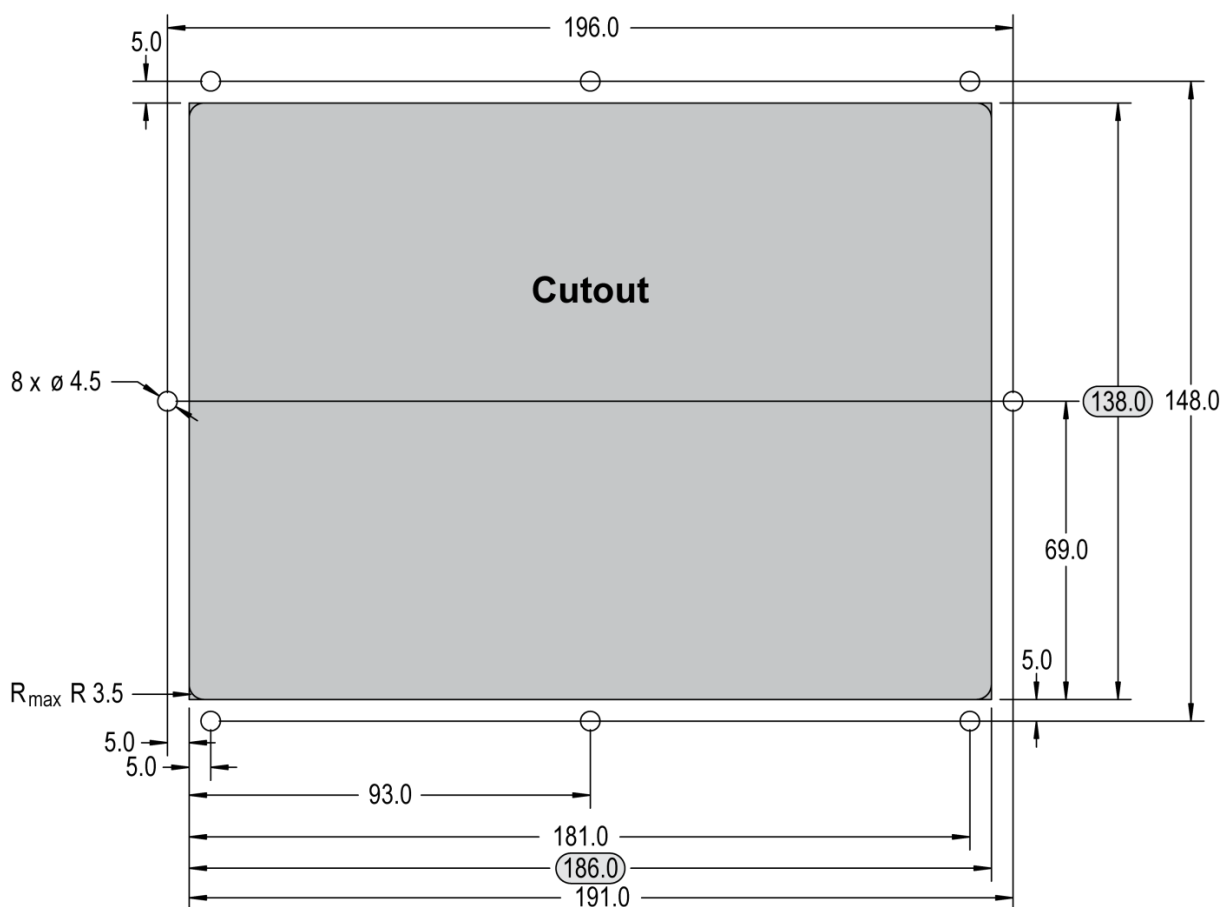

Figure 2-3: Plastic housing - drill plan
Refer to Figure 2-3 on page 17 for a cutout drawing.
1. Cut out the panel and drill the holes according to the dimensions in Figure 2-3.